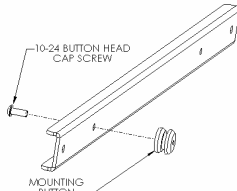
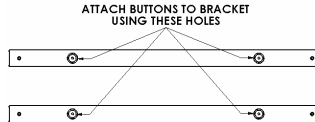

Figure 2
Figure 3
1. Using a 10-24 button head cap screw inserted from back side of bracket, secure mounting button, with chamfered hole of mounting button (larger surface) facing bracket, to top and bottom bracket (four places) (see Figure 2 & Figure 3).